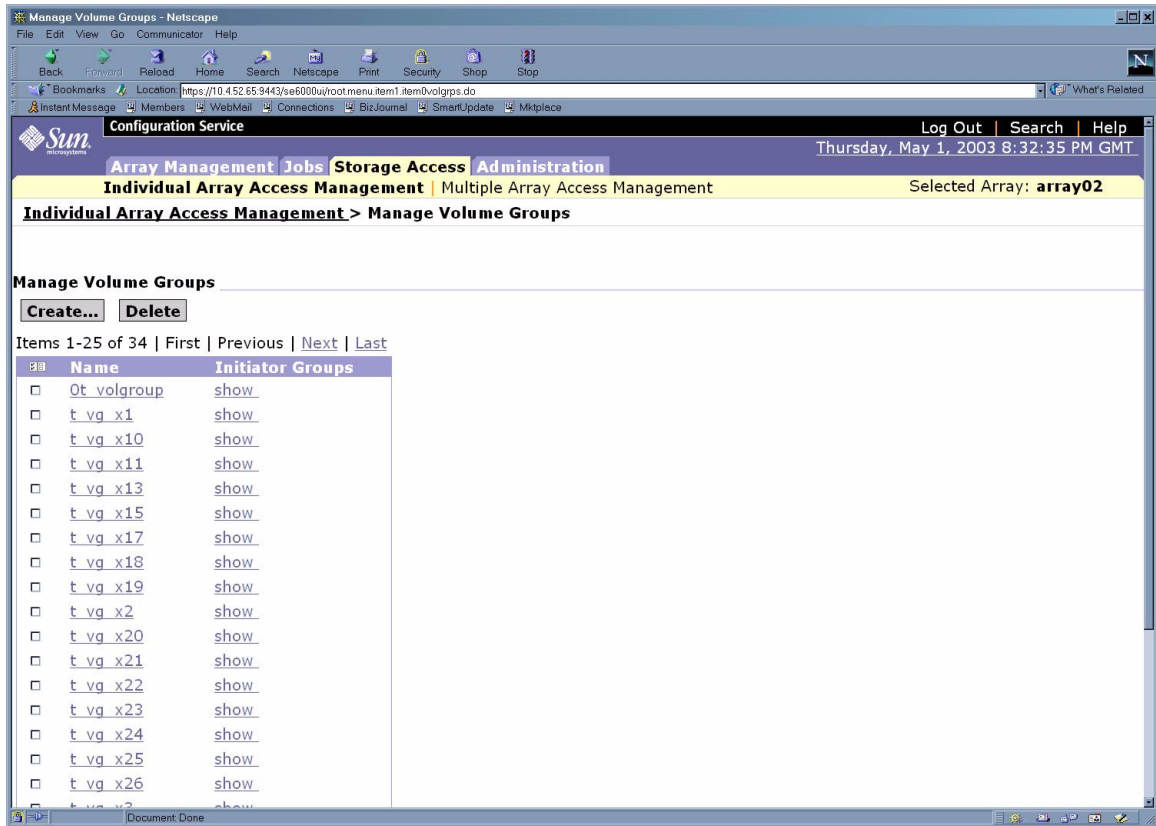

FIGURE 6-15 Manage Volume Groups Page—Creating a Volume Group
6. Click on a radio button next to an array and click on **Manage Volume Groups**. The **Manage Volume Groups** page is displayed as shown in FIGURE 6-15.